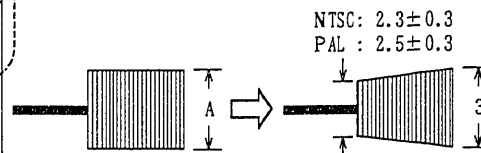

Fig. 3-4
### 3-3. Supply/Take-up Guide Roller Height Adjustment (Figs. 3-4, 3-5)
<p>1) After inserting the alignment tape which was completely rewound, set the camera/recorder to the test mode by the following procedure. [Procedure to set to the test mode] ① Remove the power supply from the camera/recorder. ② Set the CAMERA/OFF/VCR switch to VCR position. ③ Check that the ATF-R jig (SW1: OFF, SW3: ON) is connected and then press the playback button and hold it, then supply the power again to the camera/recorder.</p> <p>&lt;Note&gt; 1. If the mechanical block operates (enters the playback mode) simultaneously when the power is supplied again, the camera/recorder does not enter the test mode. Restart from step (1) again. 2. The test mode is released when the power supply is removed from the camera/recorder.</p> <p>2) Connect an oscilloscope to TP3 on the ATF-R jig and press the PLAY button.</p> <p>3) Synchronize the oscilloscope with TP1 (SW25/30) on the ATF-R jig.</p> <p>4) Set the oscilloscope to (+) slope.</p> <p>◆ Supply Guide Roller (Fig. 3-4) 5) Press SW2 on the ATF-R jig and hold it, then perform the following steps. 6) Adjust the height of the supply guide roller so the waveform is flat. 7) Adjust the voltage level control of the oscilloscope so that portion (A) of the waveform is set to 4 graduations. 8) Set SW1 on the ATF-R jig to ON.</p> <p>9) Turn RT1 on the ATF-R jig counterclockwise so the voltage at point (C) on the ATF-R jig is <math>1.8 \pm 0.1V</math>. Then check that point (B) of the waveform is set to 3 graduation.</p> <p>10) Adjust the height of the supply guide roller so minimum amplitude of the waveform is set to NTSC: <math>2.3 \pm 0.3</math> / PAL: <math>2.5 \pm 0.3</math> graduations.</p>